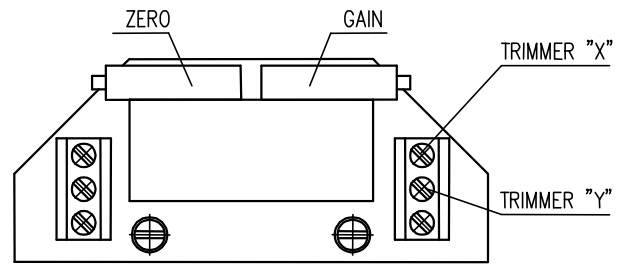

Fig. 7
### EPV – 3-wire version (Fig. 7,7a)
- Adjust the resistive transmitter according to the previous chapter. The resistance is to be metered on the terminals X-Y (Fig. 7,7a). The used transmitter resistance is 2000Ω or 100 Ω.
- Turn the adjusting trimmer ZERO (Fig. 7,7a) to adjust the output current signal rate measured on the terminals 81-82 to 0 mA or 4mA.
- Turn the adjusting trimmer GAIN (Fig. 7,7a) to adjust the output current signal rate measured on the terminals 81-82 to 20mA or 5 mA..